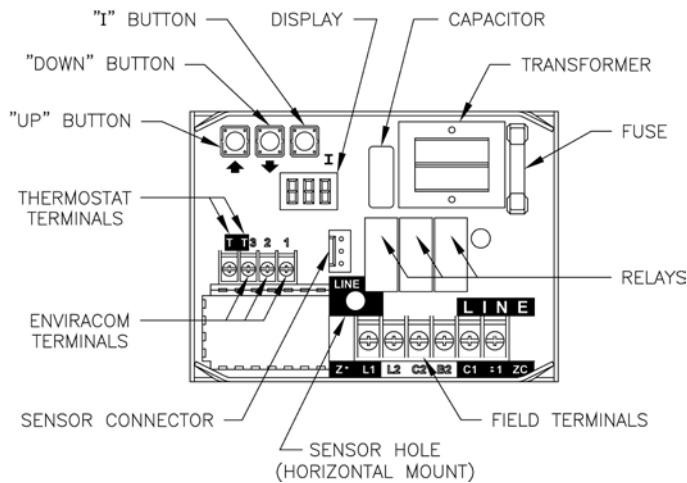

Figure 22: L7248/L7224 Circuit Board Layout - Horizontal Mount
5. ADJUSTING AQUASTAT CONTROLLER SETTINGS. To discourage unauthorized changing of Aquastat settings, a procedure to enter the ADJUSTMENT mode is required. To enter the ADJUSTMENT mode, press the UP, DOWN, and I buttons (refer to Figure 22) simultaneously for three seconds. Press the I button until the feature requiring adjustment is displayed: